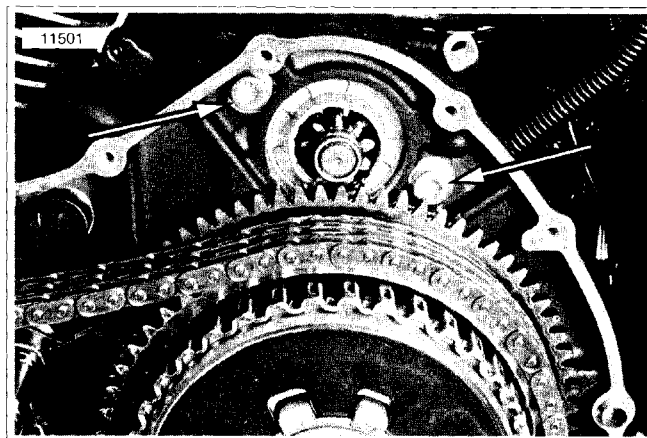

Figure 6-28. Starter Mounting Bolts
8. See Figure 6-28. Remove the two starter mounting bolts and washers.
2. See Figure 6-28. Install two starter mounting bolts and washers. Tighten to 13-20 ft-lbs (17.6-27.1 Nm).